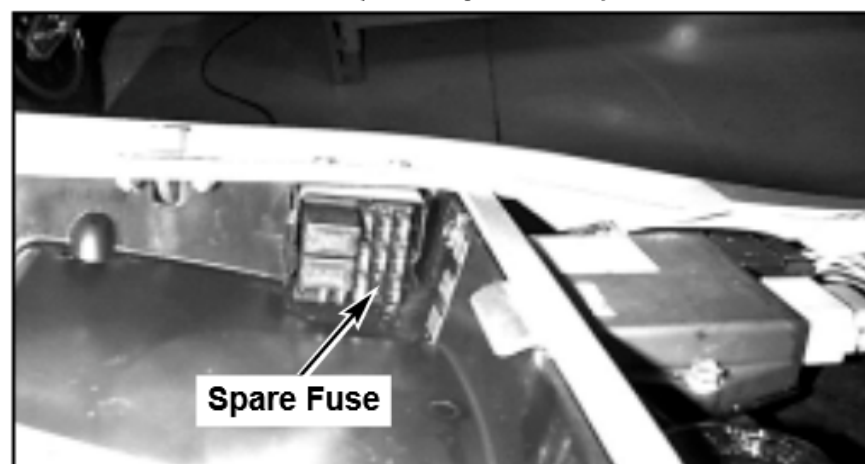

Figure 14. Install Spare Fuse
19. See Figure 14. Install spare 5 amp fuse to empty position in main fuse holder (motorcycle trunk).